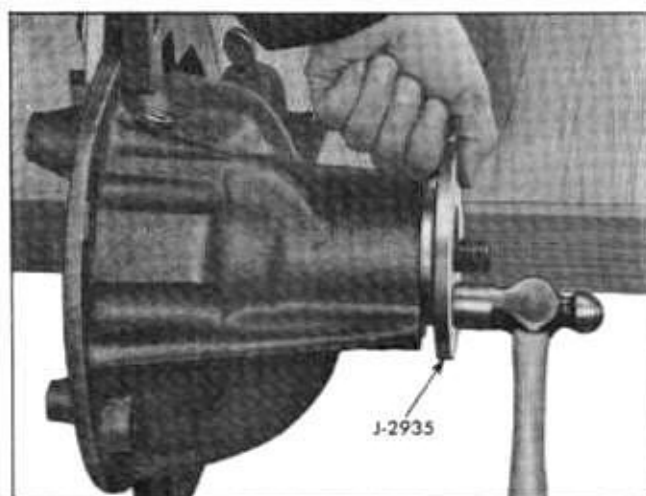

Fig. 4-37 Installing Pinion Oil Seal
23. Inspect pinion oil seal for damage. If seal retainer does not appear bent and leather is not damaged, seal may be reused. Coat outside surface of seal retainer with Permatex No. 3 or similar compound. Install seal by tapping into place using tool J-2935 against face of seal (Fig. 4-37). **NOTE:** Placing carrier so pinion is horizontal will reduce possibility of pinion falling out when seal is being tapped into place.